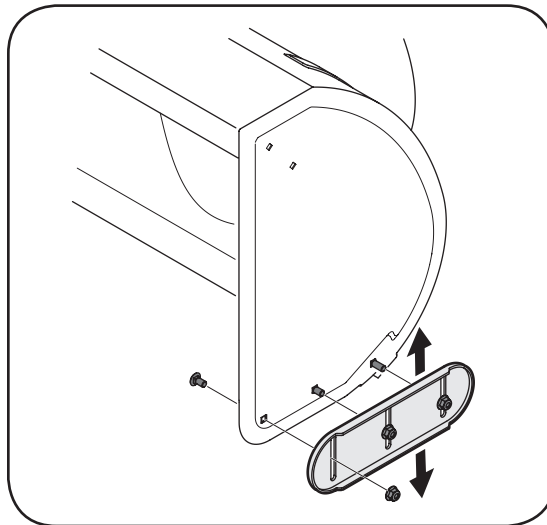

Figure 5-4
1. Adjust skid shoes by loosening the six lock nuts and carriage bolts, and moving skid shoes to desired position. See Figure 5-4.